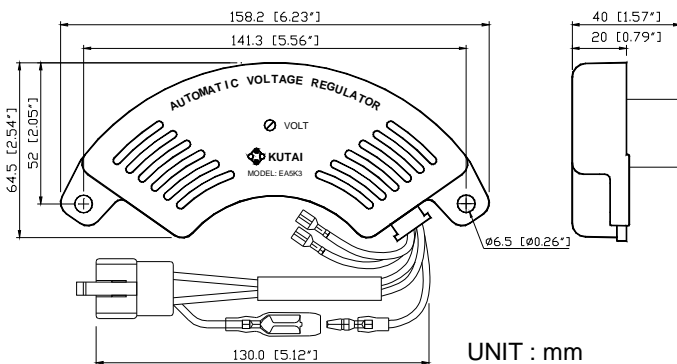

Figure 2 Outline Drawing
1. AVR can be mounted directly on the engine, genset, switchgear, control panel, or any position that will not affect operation. For dimension reference, please see Figure 2.
CN1 Connection incorrect	Reference from Figure 2 to correct connection